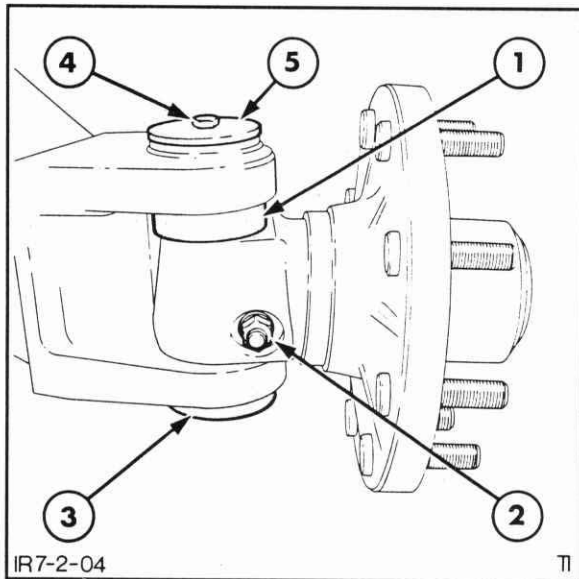

Figure 7-53
2. Remove the bolts retaining the dust seals on each end of the spindle pin, Figure 7-53.